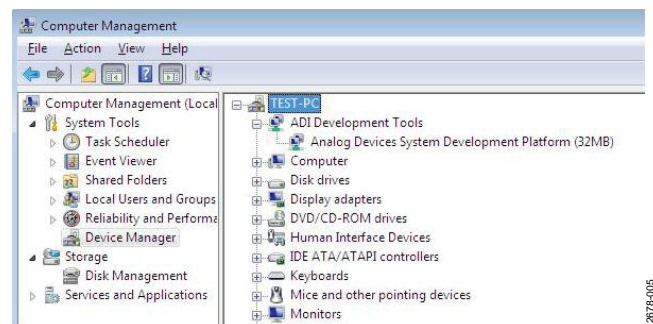

Figure 5. Device Manager
2. After the drivers are installed, check that the board has connected correctly by going to the **Device Manager** of the PC. Go to **My Computer > Manage > Device Manager**, (see Figure 5).